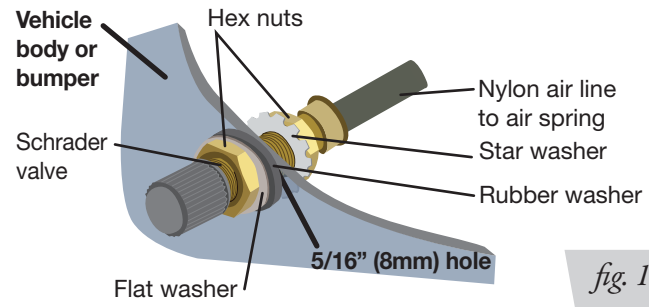

fig. 19
3. Install the Schrader valve in the chosen location (Fig. 19).